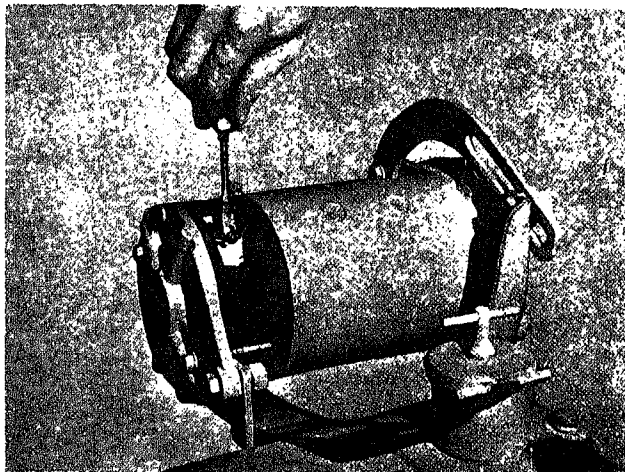

Fig. 5-49. Checking generator brushes
2. Replace worn brushes. If brushes wear rapidly, check for incorrect brush spring tension, Fig. 5-49, or high mica on the commutator. Check output by action of ammeter indicator needle after brush replacement.